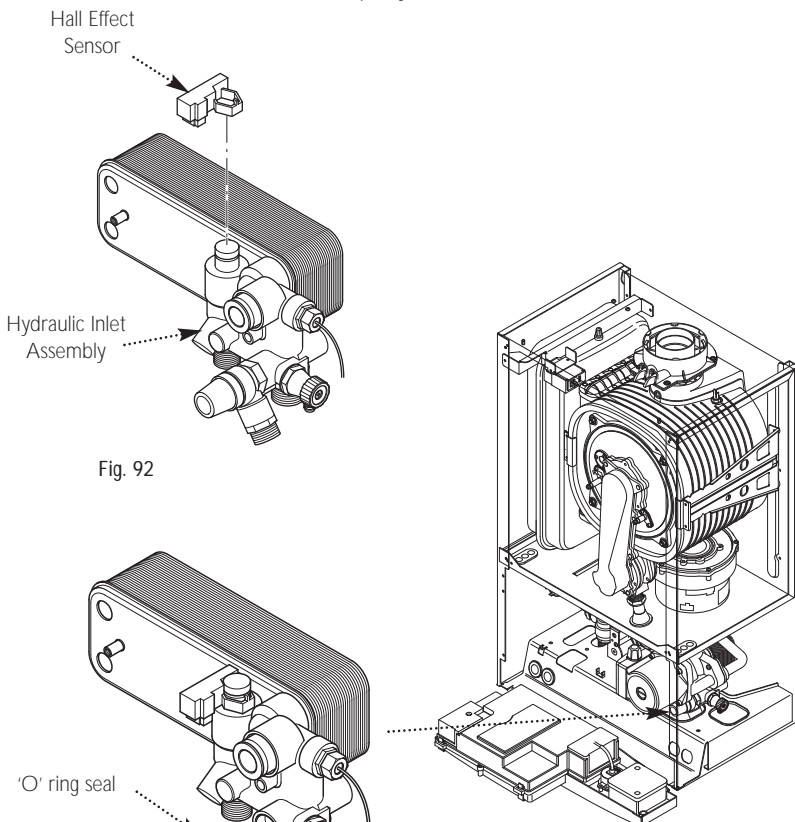

Fig. 92
14.18 Hall Effect Sensor (Fig. 92)